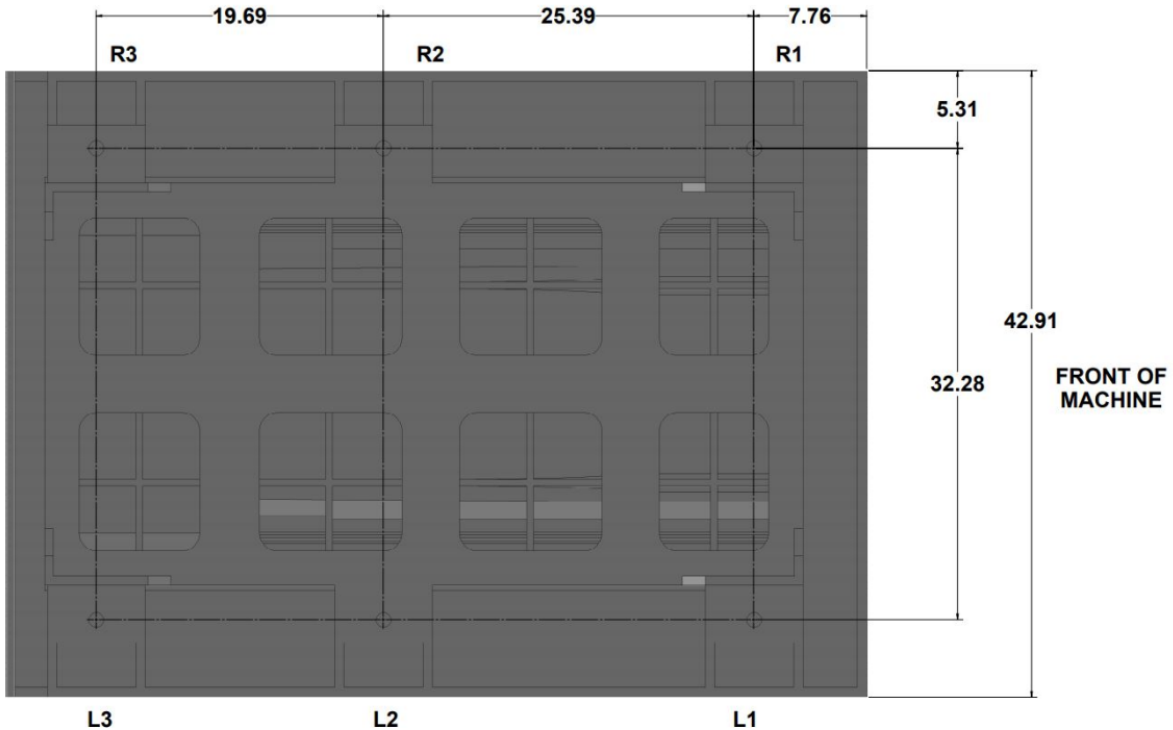

Figure 2.6.1a - TMC5 Leveling Pad Dimensions
Leveling the TMC in the field consists of leveling the machine and then adjusting the level, if necessary, to make sure the tram of the spindle is perpendicular to the table. Refer to figure 2.6.1a, 2.6.1b or 2.6.1c for the Leveling Pad Dimensions and Locations for your specific TMC.
4. On the TMC5, leveling is achieved by using leveling screws R1, R3, L1 and L3. See figure 2.6.1a. Adjusting screws R2 and L2 should be left loose or just snug with the leveling pads and have no pressure at this time. A 36 mm wrench is required to adjust the leveling bolts.